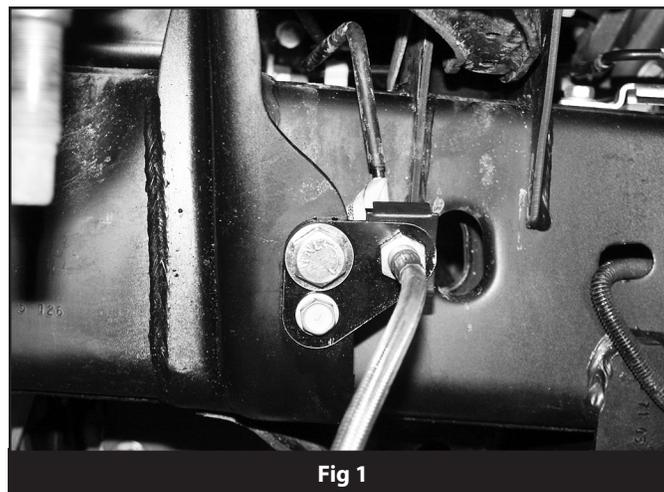

Fig 1
6. Attach the provided brake line relocation bracket (01274) to the frame where the original line mounted. Fasten the bracket with the OE fitting bolt through the original threaded hole and the corresponding small hole in the new bracket (Fig 1). Align the other mounting hole in the bracket with the brake line hole in the frame and fasten with a 1/2" x 1-1/4" bolt, nut and 1/2" SAE washers (BP #631). Torque the OE bolt to 10 ft-lbs and the 1/2" bolt to 50 ft-lbs. **Note:** *The third hole in the bracket should be hanging out past the edge of the frame.*